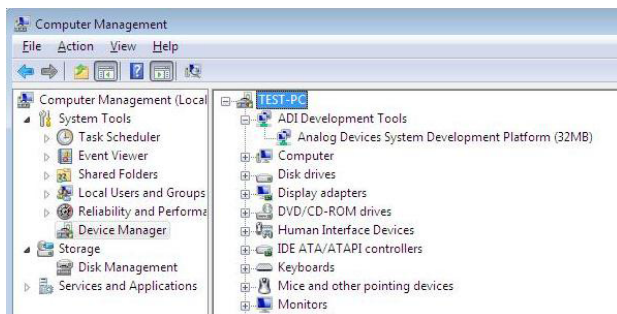

Figure 13. Device Manager: Checking that the Board Is Connected to the PC Correctly
- iii. The **Computer Management** box appears. Click **Device Manager** from the list of **System Tools** (see Figure 13).